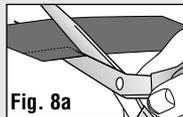

Fig. 8a
- On one sheet of Blackout Paper, cut a notch (1/2" x 3/4" length) in upper right-hand corner (**Fig. 8a**).